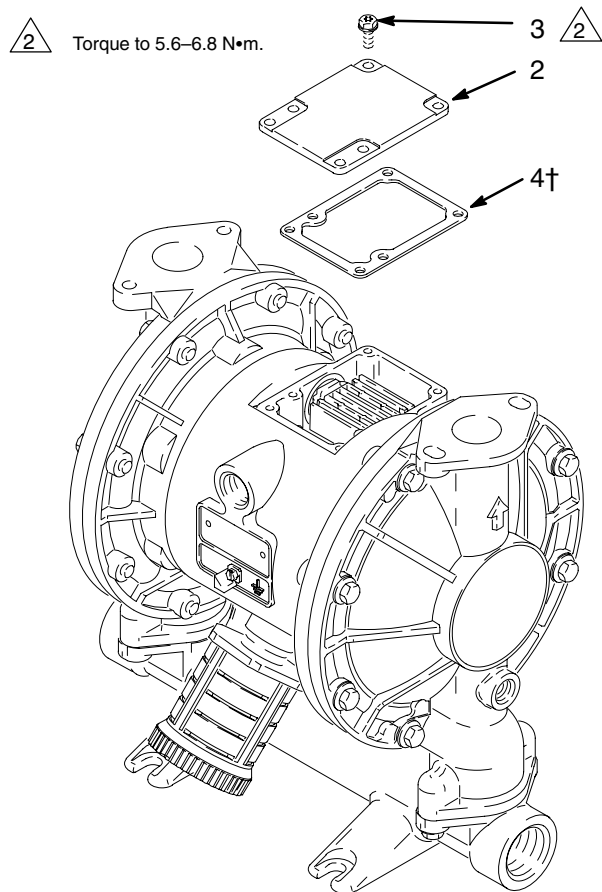

Fig. 8
2. With a Torx (T20) screwdriver or 7 mm socket wrench, remove the six screws (3), air valve cover (2), and gasket (4). See Fig. 8.
10. Align the valve gasket (4) and cover (2) with the six holes in the center housing (1). Secure with six screws (3), using a Torx (T20) screwdriver or 7 mm socket wrench. Torque to 5.6–6.8 N•m. See Fig. 8.